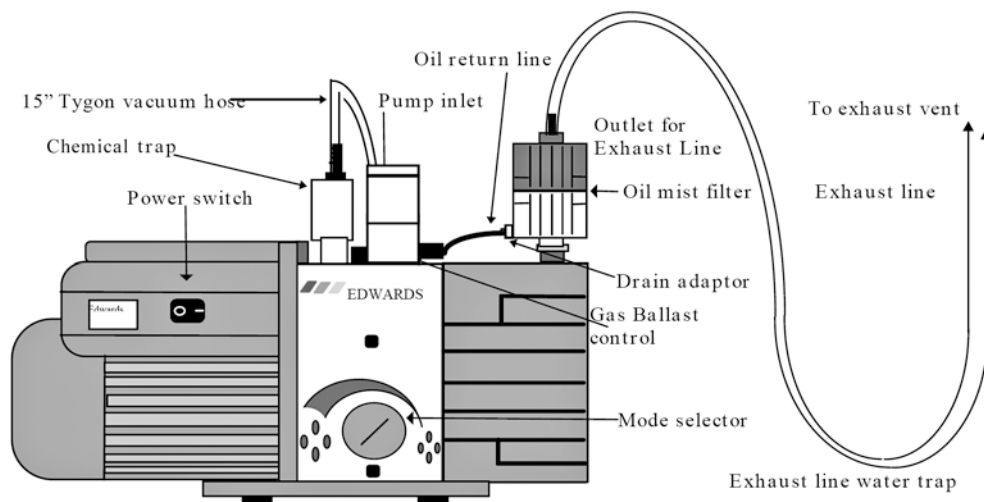

Figure 14 RV-5 Oil-Sealed Vacuum Pump Exhaust Line
- 28 Shape the exhaust line to capture excess water (see Figure 14). Do not allow water to condense in the exhaust line and drip back into the coalescing filter. Alternatively, install a water trap using a vacuum flask after the coalescing filter to capture excess water and prevent water from dripping back into the coalescing filter.
Set the mode selector halfway between the High Vacuum mode, the small **◆** symbol (see Figure 14) and the High Throughput mode. Do not set the mode selector to the High Throughput mode, the large **◆** symbol.